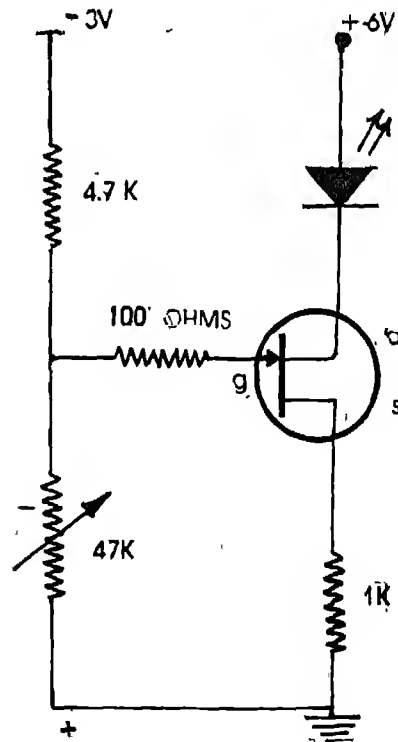

Fig. 15.4
1. Connect the circuit as shown in Fig 15.4.
2. What would happen in the source resistance of  $1K\ \Omega$  in Fig. 15.4 is replaced by  $5K\ \Omega$ .
4. Why a resistance of  $100\ \Omega$  is connected in series with the gate of FET in Fig. 15.4?